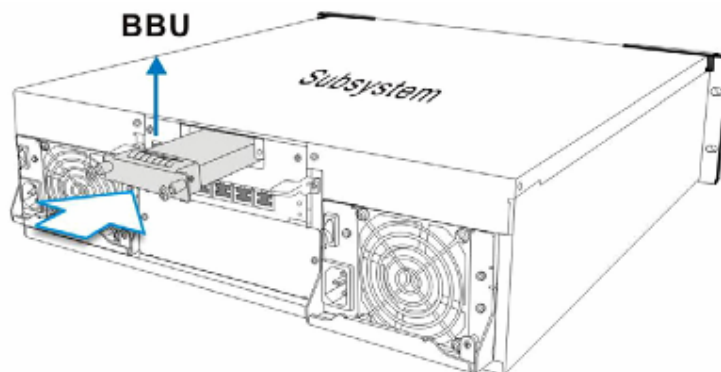

Figure 2-14: Installing the BBU Module
Step 5. **Secure the BBU module to the chassis.** Fasten the two (2) retention screws on the BBU module to secure the BBU module to the chassis. (See **Figure 2-14**)